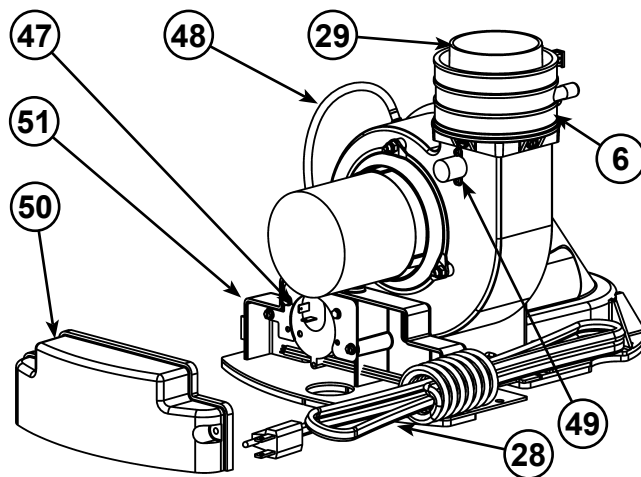

Figure 60.
- 6 Gear Clamp (see Figure 6) (see also **Figure 60**)
- 29 *Rubber Coupling (see Figure 6) (see also **Figure 60**)
- 47 Air Switch (inside box) (see Figure 6) (see also **Figure 60**)
- 48 Air Tubing (see Figure 6) (see also **Figure 60**)
- 49 Blower High Limit Switch (see Figure 6) (see also **Figure 60**)
- 50 Junction Box Cover (see Figure 6) (see also **Figure 60**)